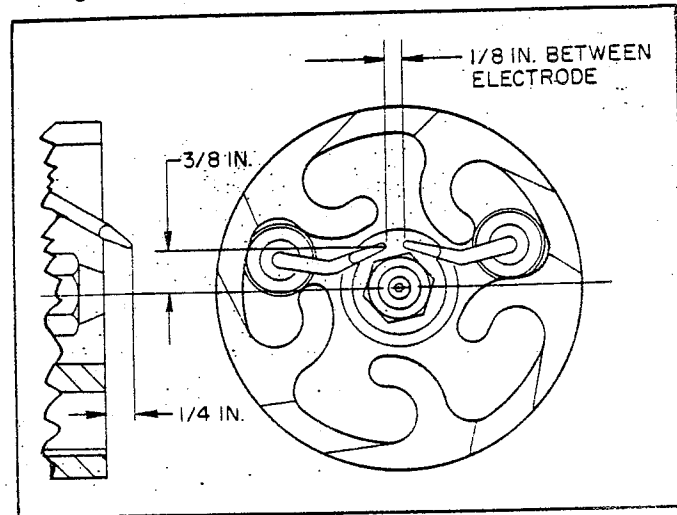
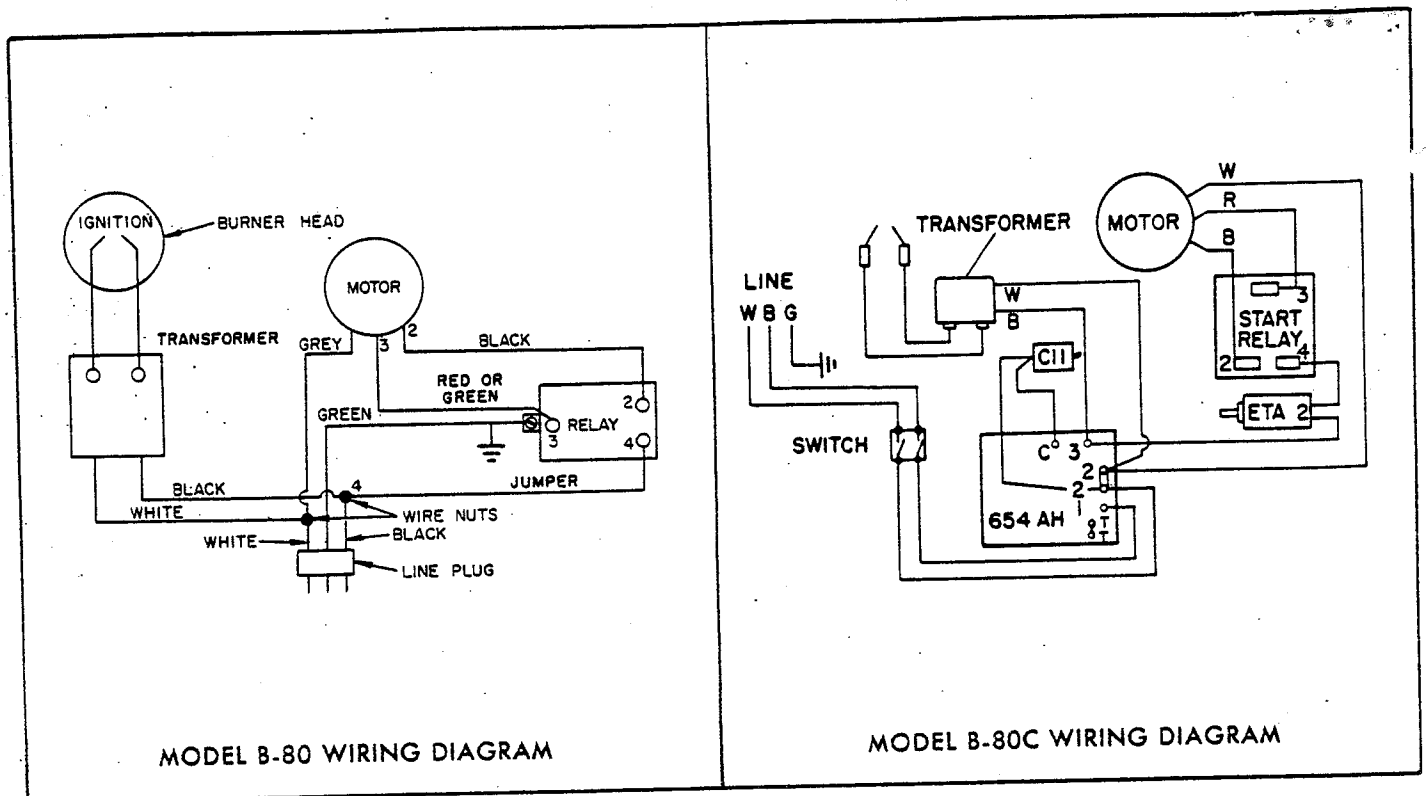
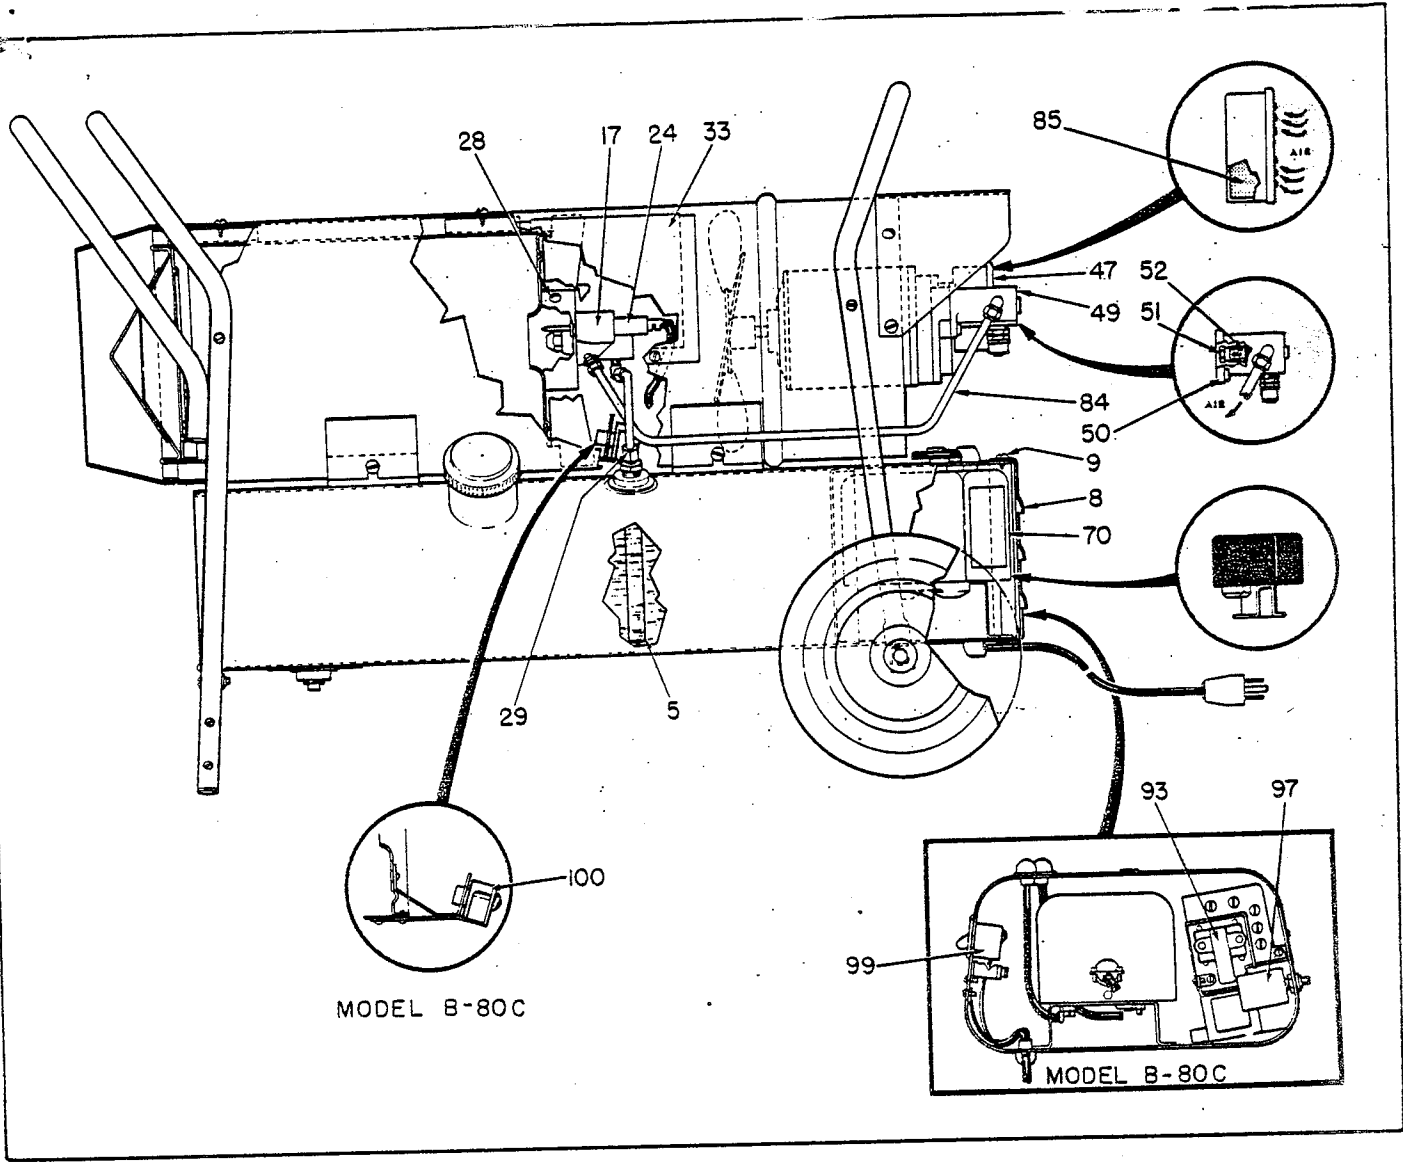

Figure 1. Electrode Settings
Figure 2. Wiring Diagrams
Figure 3. Portable Heater - Side View
a. Air intake filter (figure 3, item 47). Remove "snap on" cover of Ozonaire filter housing, lift out filter element (85), wash in kerosene, dry thoroughly and replace. Be sure cover is on tight.
b. Output air line filter (49). Remove housing (50) by loosening two Allen head screws (54). With wrench back out filter stem (51) and remove the two felt filters (52). Wash thoroughly with kerosene and dry. Replace on filter stem and screw securely in place. Replace housing. Do not attempt to adjust pressure relief valve, as it is capped and preset at factory.
c. Fuel intake filter (5). Remove fuel line (29) from filter, and with wrench back out (counterclockwise) filter. Immerse in clean fuel and rinse several times. Blow out through fitting end. Replace securely and connect fuel line.
Reassemble burner in heater, after checking electrode settings according to manual instructions, Figure 1, making sure burner is snug against combustion chamber backplate. Turn counterclockwise as far as possible and tighten screw (28). Tighten connections on air and fuel lines securely and electrode leads must be inserted until they snap into place. Replace access door.
Figure 3 lists all parts that may be replaced by owner in field. For major overhauls, such as on burner and pump assemblies, it is preferred that heater be returned to vendor for service. Parts and settings could be damaged by wrong procedures in disassembly.
- b. Electrodes out of position - see Figure 1.
Fuel Line (Figure 3, Item 29)
Air Line (Figure 3, Item 84)
Remove burner assembly from heater (see cleaning instructions, section III) and remove electrodes (Figure 3, Item 24) by loosening screws (28). Electrodes must be removed from face side of burner as electrode tips would be damaged if forced out from back. Replace electrodes if old ones are cracked or excessively dirty. The metal bands (one for each electrode) must be positioned directly under screws (28) so porcelain will not be damaged when tightened. Otherwise screws tightened directly on electrodes will crack them and tips will not position correctly. Refer to Figure 1 for electrode settings. Replace burner.
Transformer is located in tank extension on rear of heater. Remove cover (Figure 3, Item 8) by backing out four screws (9). Before removing transformer, check across electrode terminals with insulated screwdriver with heater running. If burnt out, no arcing will be seen. Disconnect primary leads from wire nuts (see Figure 2) and electrode leads from terminals on bottom of transformer. Loosen two hex nuts from transformer studs on underside of bracket and slide transformer to left. Bracket is slotted. Remove and replace with new transformer. Tighten hex nuts, connect electrode leads, hook up primary leads and be sure cover is fastened securely.
The following is a list of all parts used in the model 80 portable heaters. The only parts recommended for replacement by owner are listed in Figure 3. Check the master decal for the correct model number of your heater. Parts required for model B-80 and B-80C are listed in the columns marked by model number.